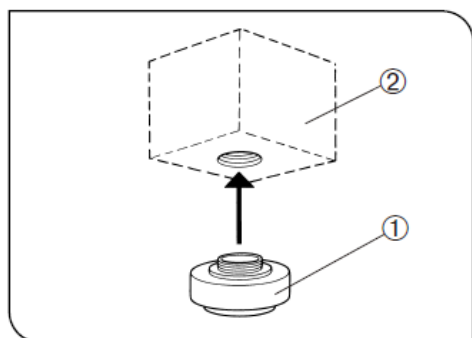

Fig. 1
1. Attach the C-mount adapter 1 to the C-mount TV camera 2 by screwing firmly. (Fig. 1)